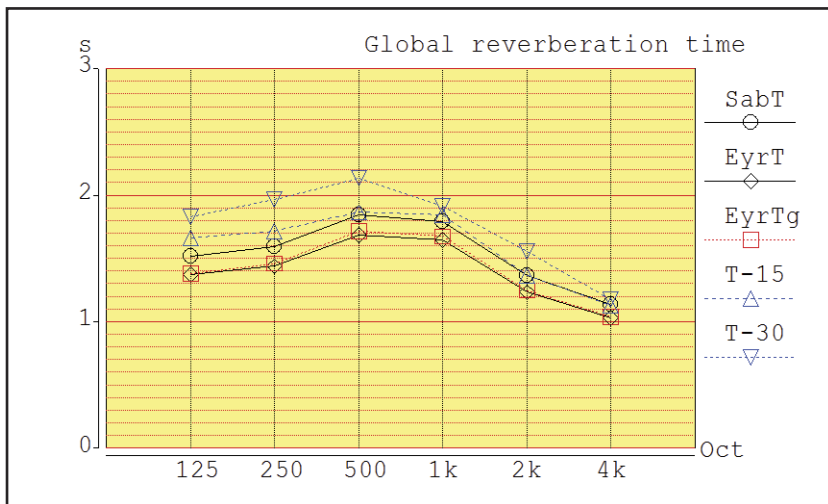

Figure 9: This graph compares three predictions of octave-band RT versus frequency: Sabine, Eyring, and Eyring geometric (Tg), with T15 and T30 measurements.
**Figure 9** shows the average RT of the entire room, along with the calculated values using the Sabine, Eyring, and “Eyring geometric” (Eyr Tg) equations. (The Eyring geometric calculation uses the area-weighted mean absorption coefficient, giving slightly different results from the original Eyring formula.)